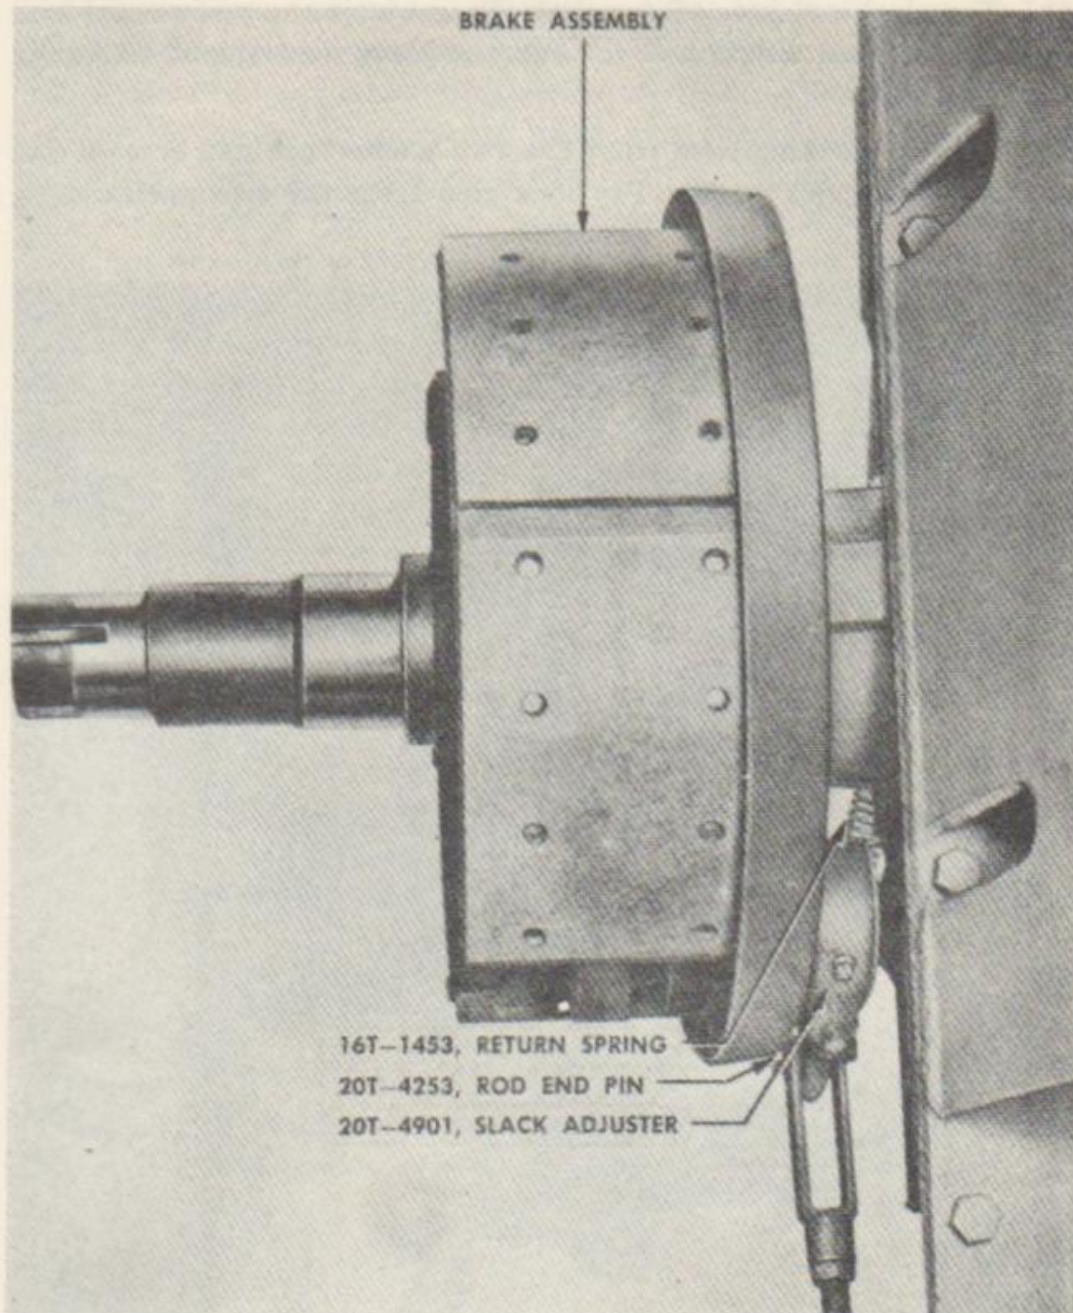

FIGURE 39. BRAKE ASSEMBLY
- (1) Remove wheel and tire assembly as one unit, if outer brake shoes are to be removed (para. 71). If inner brake shoes are to be removed, remove tire and rim assembly (para. 78 a.). Then remove wheel and drum assembly (para. 76).
- (2) Remove cotter pin from rod end pin and drive out pin. Uncouple return spring from slack adjuster (fig. 39).
(1) Remove wheel and tire assembly as one unit if outer brake shoes are to be removed (para. 74). If inner brake shoes are to be removed, remove tire and rim assembly and then wheel and drum assembly (para. 76).
(2) Remove six cap screws and lock washers from the two-piece dust shield.
(3) Remove brake shoes (fig. 39) (para. 58 *a.*).
(4) Inspect brake drum (para. 58 *b.*).